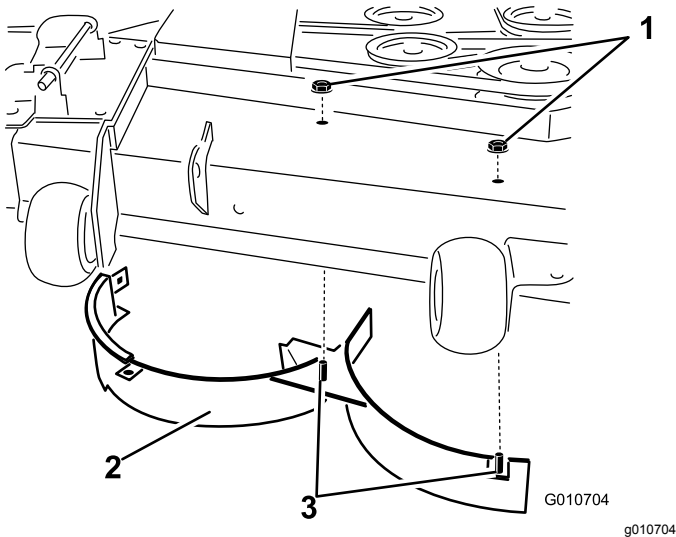

Figure 34
12. Remove the 2 locknuts (5/16 inch) securing the welded posts of the right baffle to the top of the mower deck at center and right of center positions (Figure 34).